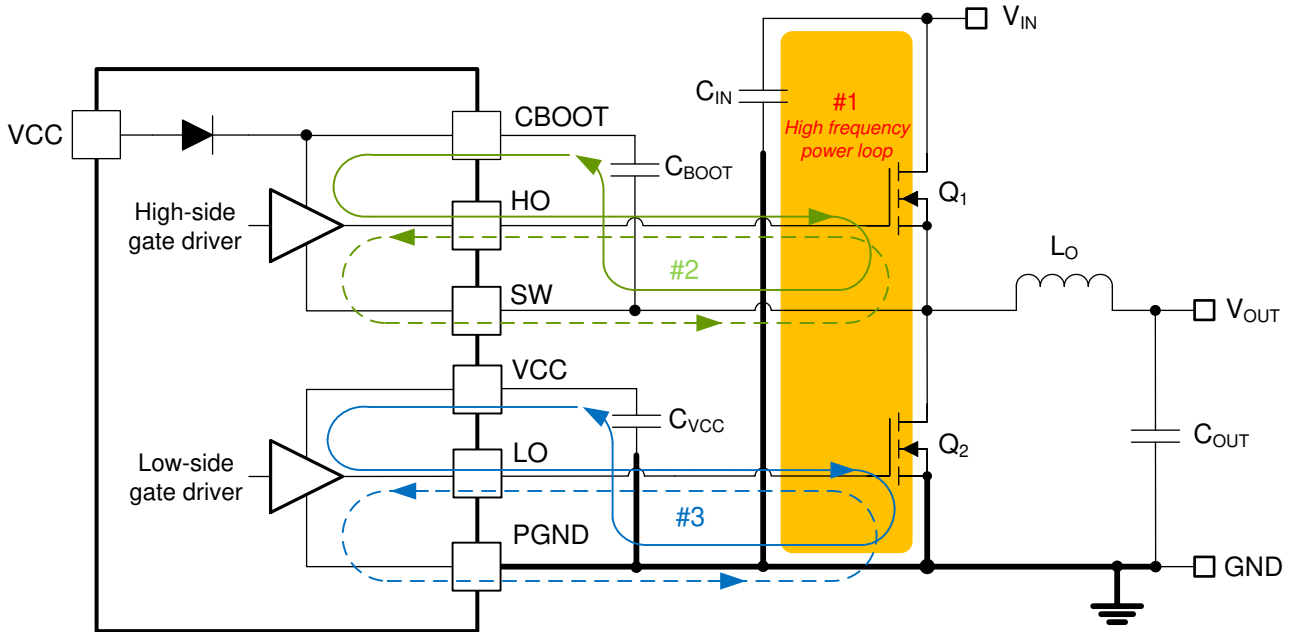

Figure 9-46. DC/DC Regulator Ground System With Power Stage and Gate Drive Circuit Switching Loops
Proper PCB design and layout is important in a high-current, fast-switching circuit (with high current and voltage slew rates) to achieve a robust and reliable design. As expected, certain issues must be considered before designing a PCB layout using the LM5148-Q1. The high-frequency power loop of a buck regulator power stage is denoted by loop 1 in the shaded area of Figure 9-46. The topological architecture of a buck regulator means that particularly high di/dt current flows in the components of loop 1, and it becomes mandatory to reduce the parasitic inductance of this loop by minimizing its effective loop area. Also important are the gate drive loops of the high-side and low-side MOSFETs, denoted by 2 and 3, respectively, in Figure 9-46.
- Loop 1: The most important loop area to minimize is the path from the input capacitor or capacitors through the high- and low-side MOSFETs, and back to the capacitor or capacitors through the ground connection. Connect the input capacitor or capacitors negative terminal close to the source of the low-side MOSFET (at ground). Similarly, connect the input capacitor or capacitors positive terminal close to the drain of the high-side MOSFET (at V_{IN}). Refer to loop 1 of Figure 9-46.
- The SW pin connects to the switch node of the power conversion stage and acts as the return path for the high-side gate driver. The parasitic inductance inherent to loop 1 in Figure 9-46 and the output capacitance (C_{OSS}) of both power MOSFETs form a resonant circuit that induces high frequency (greater than 50 MHz) ringing at the SW node. The voltage peak of this ringing, if not controlled, can be significantly higher than the input voltage. Make sure that the peak ringing amplitude does not exceed the absolute maximum rating limit for the SW pin. In many cases, a series resistor and capacitor snubber network connected from the SW node to GND damps the ringing and decreases the peak amplitude. Provide provisions for snubber network
- Loop 2: high-side MOSFET, Q_1 . During the high-side MOSFET turnon, high current flows from the bootstrap (boot) capacitor through the gate driver and high-side MOSFET, and back to the negative terminal of the boot capacitor through the SW connection. Conversely, to turn off the high-side MOSFET, high current flows from the gate of the high-side MOSFET through the gate driver and SW, and back to the source of the high-side MOSFET through the SW trace. Refer to loop 2 of Figure 9-46.
- Loop 3: low-side MOSFET, Q_2 . During the low-side MOSFET turnon, high current flows from the VCC decoupling capacitor through the gate driver and low-side MOSFET, and back to the negative terminal of the capacitor through ground. Conversely, to turn off the low-side MOSFET, high current flows from the gate of the low-side MOSFET through the gate driver and GND, and back to the source of the low-side MOSFET through ground. Refer to loop 3 of Figure 9-46.